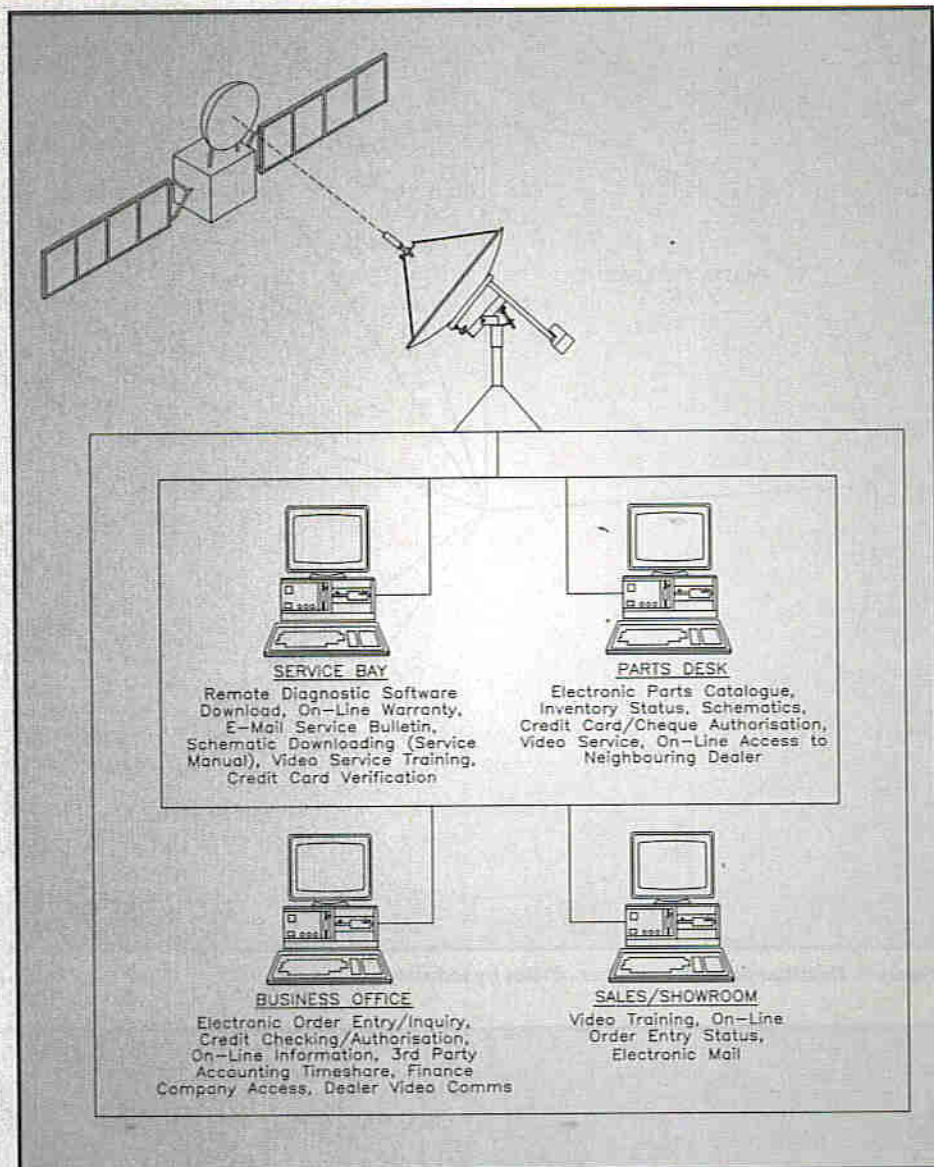

Figure 8. Automotive network diagram.
**Automotive.** Until recently, the communications focus of the automotive industry has been on such back office processing applications as inventory control, general ledger and payroll, and remote computing service applications such as accounting time-sharing, credit check and finance company access. However, this focus has shifted to interactive dealer-to-manufacturer communications, which include on-line warranty, order entry, credit check authorisation and the locating of vehicle parts. There has also been an increased demand for manufacturer-to-dealer communications, such as video training for sales and service personnel, new car introductions and in-dealership music. VSAT technology is seen as the ideal platform for these broadcast applications (see Figure 8).